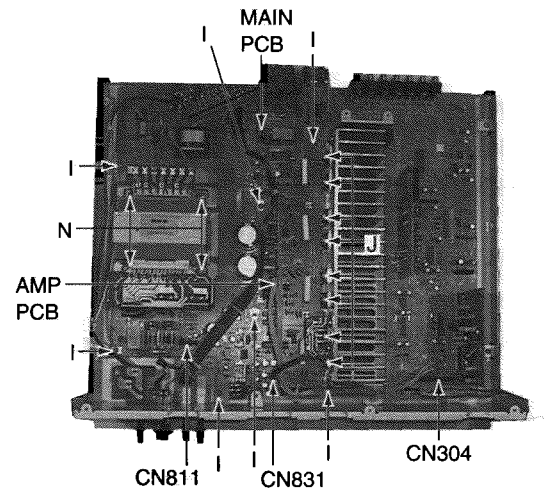

Fig.7
(6) MAIN P.C.BOARD Removal (Fig.7,8)